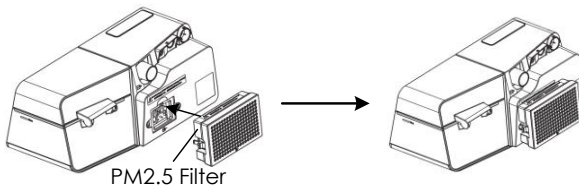

Fig. 12-3
(3) Change the air filter and filter cap to the PM2.5 filter, as shown in Fig. 12-3.